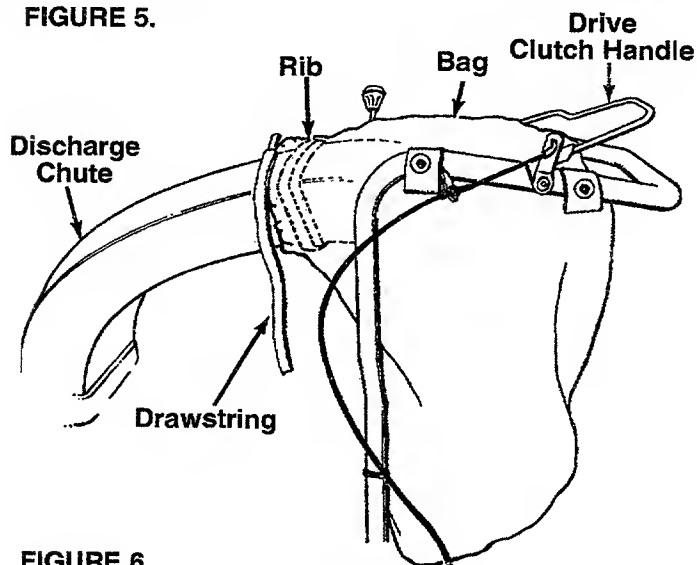

FIGURE 6.
- Place bag inside of handle assembly. Slip the opening on the bag over the discharge chute, making certain it is over the rib on the discharge chute. See figure 6.